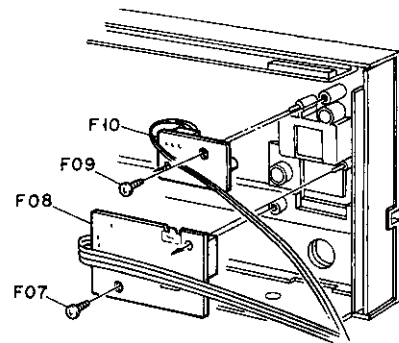

Fig. 2.2.2
- (1) Remove the Top Cover Ass'y and Bottom Cover Ass'y referring to item 2.1.
- (2) Loosen screws F01 (3 pcs.) and F02 (3 pcs.).
- (3) Remove F03 (Tone Volume Knob Ass'y, 2 pcs.), F04 (Selector Knob Ass'y, 2 pcs.), and F05 (Power Button). Note: F05 (Power Button) is hard to remove.
- (4) Turn F06 (Front Panel Ass'y) in the direction of the arrow.
- (5) Loosen a screw F07 and remove F08 (Remote Control Sensor P.C.B. Ass'y). Refer to Fig. 2.2.2.
- (6) Loosen a screw F09 and remove F10 (Power Indicator P.C.B. Ass'y).